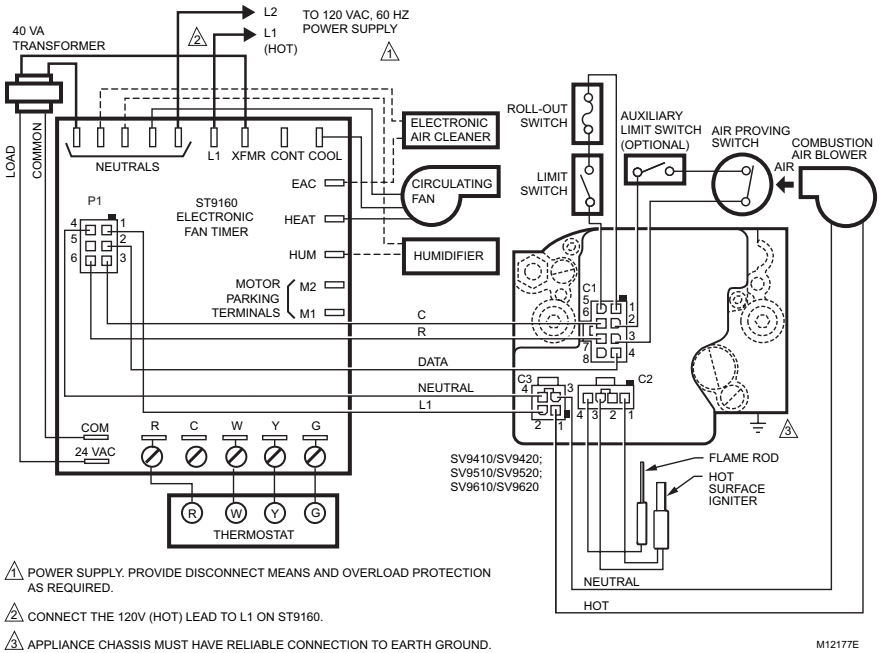

Fig. 7. SV9510/SV9520 typical wiring connections in fan-assisted warm air furnace with ST9160 Fan Board.
4. Connect control circuit to the ignition system control using the keyed connector. See Fig. 7 through 10.